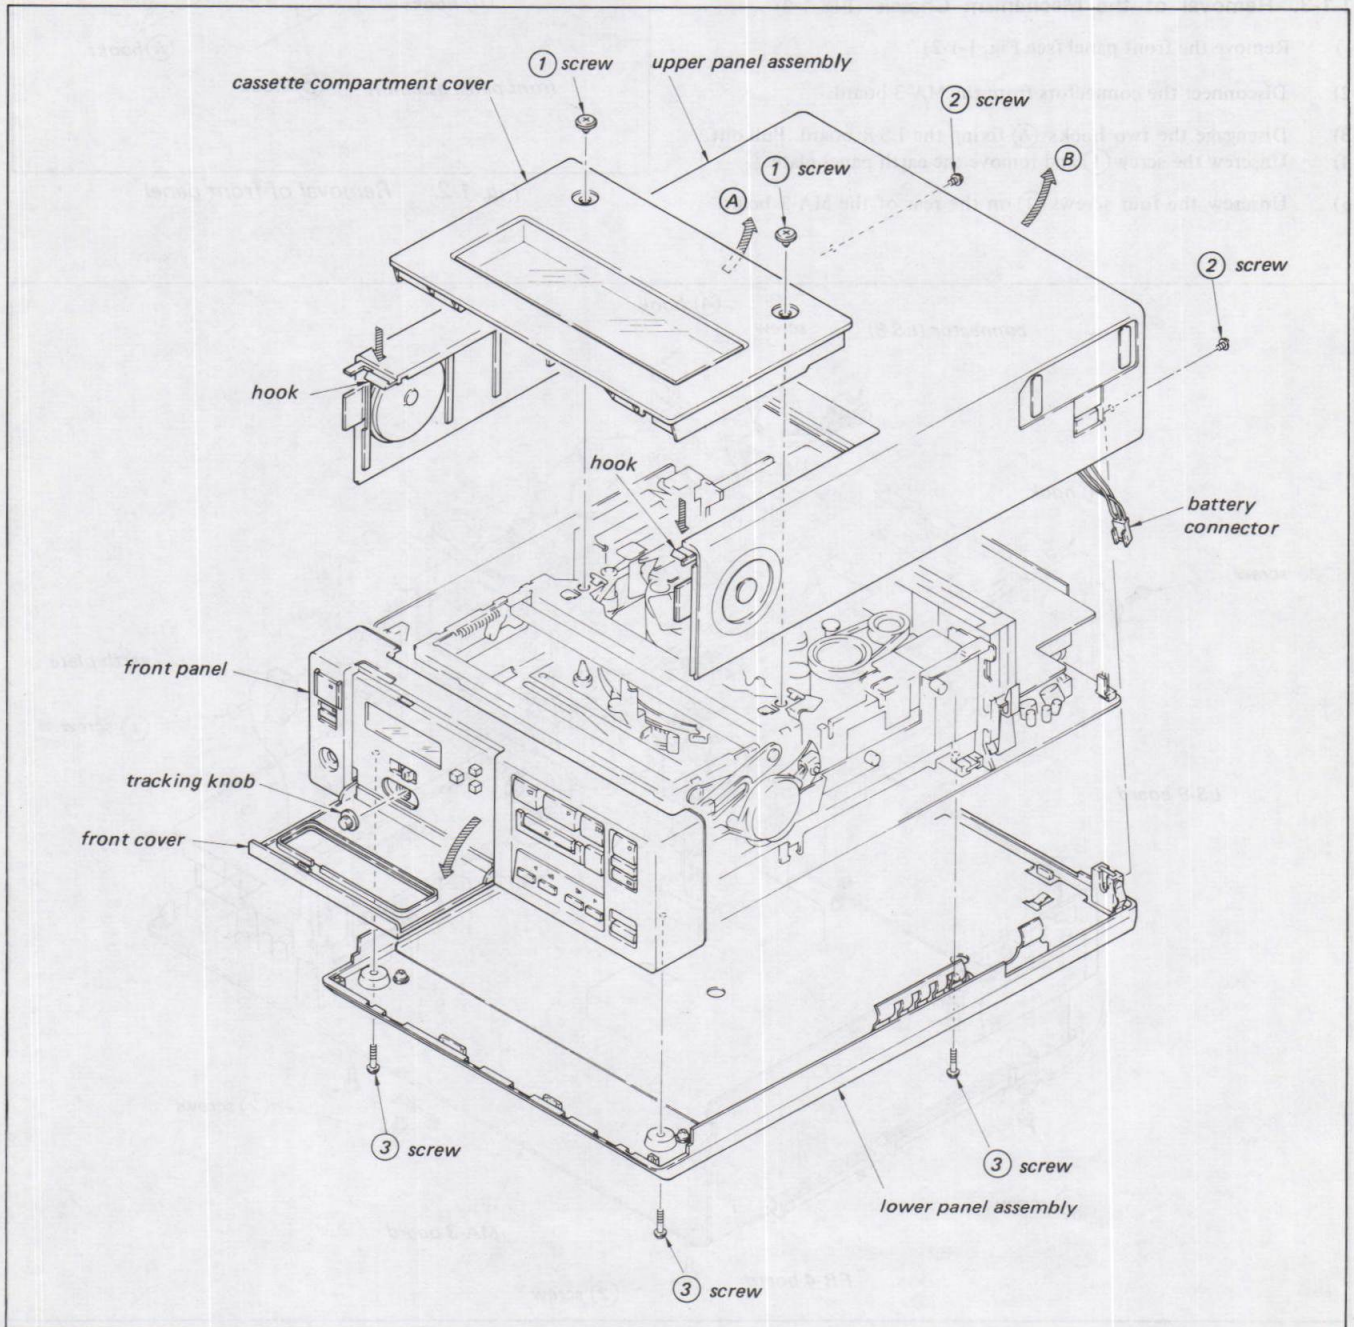

Fig. 1-1. Removal of panel assembly
1-1-1. Removal of Panel Assembly (Fig. 1-1)
- 1) Open the front cover and pull out the tracking knob. (Fig. 1-1)
- 2) Disengage the four hooks (A) by pushing them outward. Disengage the four hooks (B), pull the panel down in the direction indicated by the arrow (a), then forward together with the circuit board.
- 4) Insert a blade-tip screwdriver between the front panel and FR-4 board and disengage the four hooks (D) while pushing hook (C) down by hand.